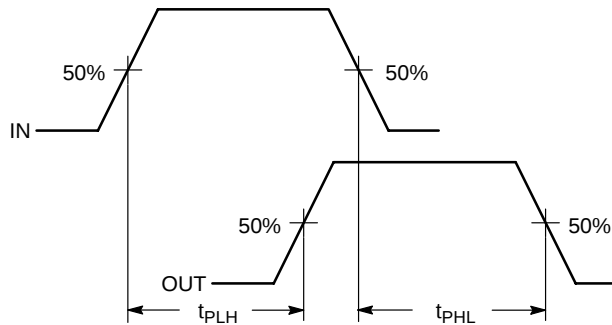

Figure 23. Single-Ended Propagation Delay
**Single-Ended ECL Devices**– Single-ended propagation delay is measured between the 50% point of the input rising or falling edge, and the 50% point of the identical output edge. There are many types of single-ended propagation delays such as a clock input to data output (CLK to Q) propagation delay. Single-ended output propagation delay is shown in Figure 23.